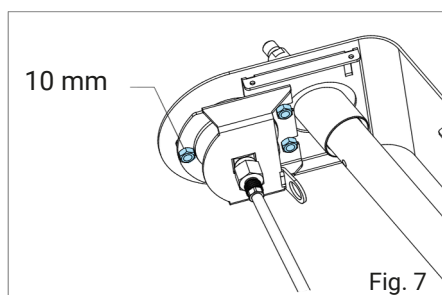

Fig. 7
- 4 When replacing the manometer (17), you must first unscrew the manometer holder (32) from the air pump casing (18). You will need a 10 mm open-end wrench for the three nuts (Fig. 7).
- 9** Fix the manometer holder and manometer using the three M6 hexagon nuts in the air pump casing. Hand-tighten the nuts using a 10 mm open-end wrench (Fig. 7).